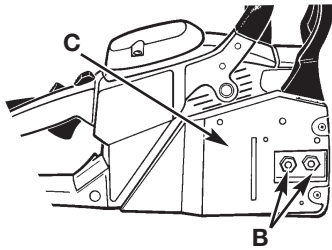
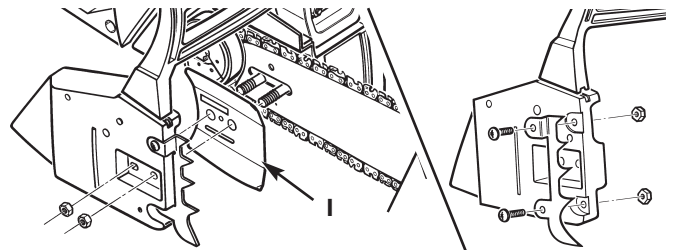
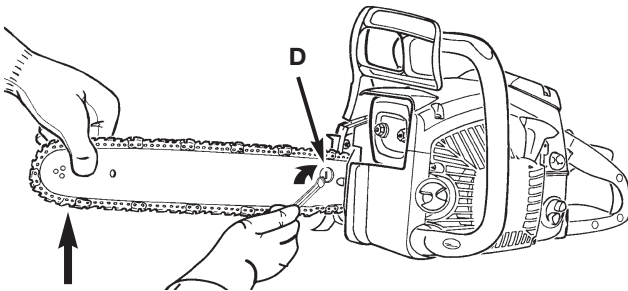

Fig. 22
Fig. 27
Fig. 28
2. Remove the 2 bar retaining nuts (B) at front of the Chain Brake® cover (C). Remove outer guide bar plate (M, Fig. 27) by pulling straight out (Fig. 22).
5. Replace the outer guide bar plate (I) so the bent edges (top and bottom) are directed away from the chain (Fig. 27).
6. Install spike on Chain Brake® cover as shown in Fig. 27 (Optional accessory).
7. Install the Chain Brake® cover (Fig. 27). Make sure the chain does not slip off of the bar. Install the 2 nuts hand tight and follow instructions in *Saw Chain Tension Adjustment*.
1. Loosen the bar retaining nut(s) (B, Fig. 22). Hold nose of guide bar up and turn adjustment screw (D) **CLOCKWISE** to increase chain tension. Turning screw **COUNTERCLOCKWISE** will decrease amount of tension on chain. Ensure the chain fits snugly all the way around the guide bar (Fig. 28).